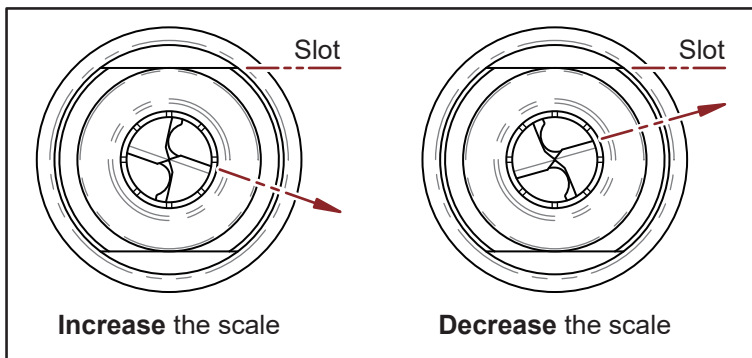

Fig. 8-6
- ✘ If the drill's cutting edge is not parallel to the slot of the clamping nut, adjust the scale and reposition the drill. (Fig. 8-6)